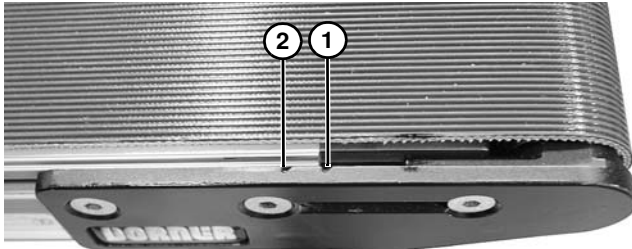

Figure 60
3. Adjust head plate assembly so end of conveyor frame aligns with or between the head plate tensioning marks (**Figure 60, item 1 & 2**). Replace belt if proper tensioning can not be obtained while aligning the end of the conveyor frame with or between the tensioning marks.